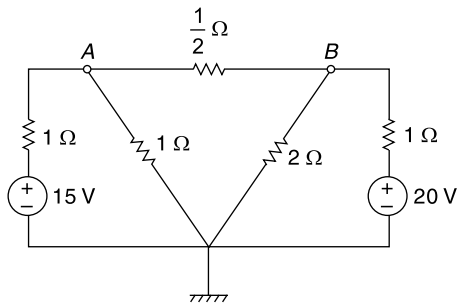

Fig. 4.37 Circuit of Ex. 4.23
4.23 Find the currents in different branches of the network shown in Fig. 4.37 using nodal analysis.